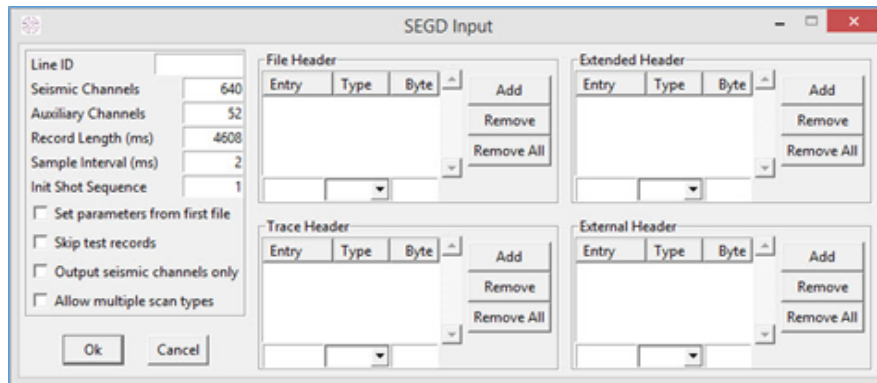

Figure 4-2 SEG-D Input Parameter window
2. After selecting the desired Encapsulation an appropriate format window (Figure 4-2 on the next page) will open. Parameters will be automatically entered following the auto analyse. SEG-D is used in this example - please refer to Appendix A: Formats and Parameter – sega,b,c,d,y for all formats and parameter description. Click OK.